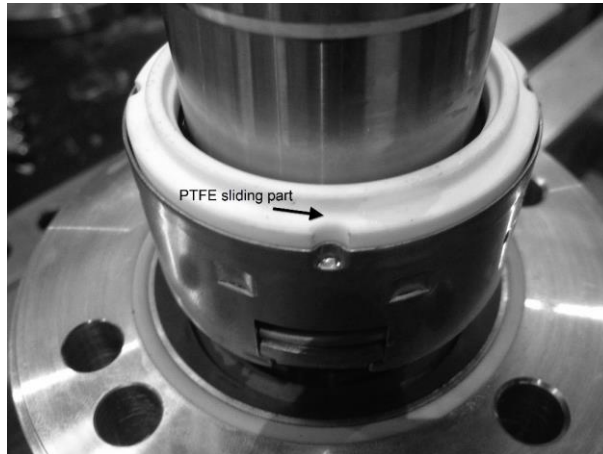

Figure 4, PTFE sliding part of seal pos. 30B
3. Apply some food approved grease to the shaft pos. 5 and to the inside of the rotating part pos. 30B of the seal pos. 30.
4. Remove the PTFE sliding part (see Figure 4) of the rotating part pos. 30B of the seal pos. 30 and slide the rotating part pos. 30B along the shaft pos. 5 to the shoulder of the shaft - sliding the part along the shaft can be difficult – it will require some force.
5. Remount the PTFE sliding part of the rotating part pos. 30B (ensure that the groove in the PTFE part is placed at the counter metal part as shown on Figure 4).
6. Mount the O-ring pos. 35 in pos. 8 (see section 3.4.10).
1. Mount the circlip pos. 16 on the shaft pos. 5.
2. Apply some food approved grease to the shaft pos. 5 and to the inside of the rotating part pos. 30B of the seal pos. 30.
3. Remove the PTFE sliding part (see Figure 4 in 3.4.6) of the rotating part pos. 30B of the seal pos. 30 and slide the rotating part pos. 30B along the shaft pos. 5 to the circlip pos. 16.
4. Remount the PTFE sliding part of the rotating part pos. 30B (ensure that the groove in the PTFE part is placed at the counter metal part as shown on Figure 4 in 3.4.6).
5. Mount the O-ring pos. 35 into the console pos. 11 (see section 3.4.10).
6. Mount the O-ring on the stationary part pos. 30A (see section 3.4.11).
7. Mount the stationary part pos. 30A into the console pos. 11.
8. Clean sealing surfaces on pos. 30A and 30B with some alcohol.
9. Mount the console pos. 11 in a way that still enables access to the four threads in pos. 9.
10. Press / gently hammer down the two pins pos. 14.